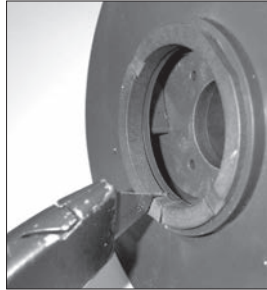

Figure 25
1. Thrust ring (item 7A) is held in-place with a snap fit with a ridge. Using a razor knife or side cutters, cut a notch out of the thrust ring. Pull ring up and out of the holder. See figures 25 and 26.